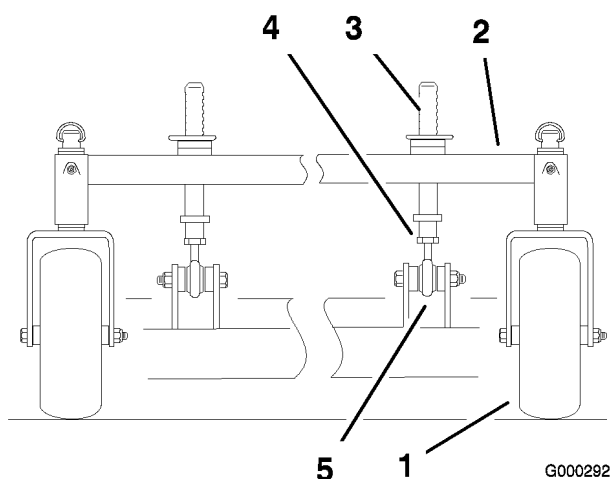

Figure 61
1. To change the front-to-rear pitch, the front height-of-cut posts can be adjusted (Figure 61).
2. To raise the front of the deck, loosen jam nut and rotate the front pin clockwise (Figure 61).
3. To lower the front of the deck, loosen jam nut and rotate the front pin counter clockwise (Figure 61).
6. Tighten the jam nuts (Figure 61).